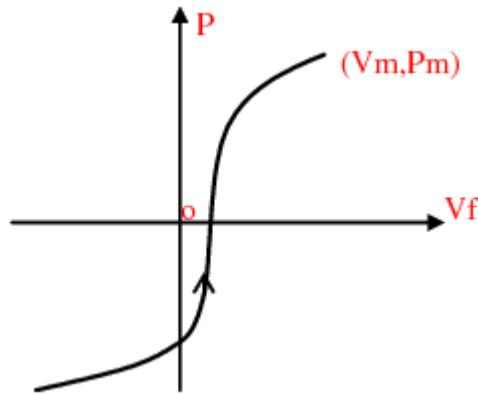

Figure 29 Lower Branch of a Hysteresis Loop
2. Remove the upper-branch of the hysteresis loop. Since the hysteresis loop is assumed to be symmetric about the origin, only the lower-branch is needed, as shown in Figure 29 on page 597.